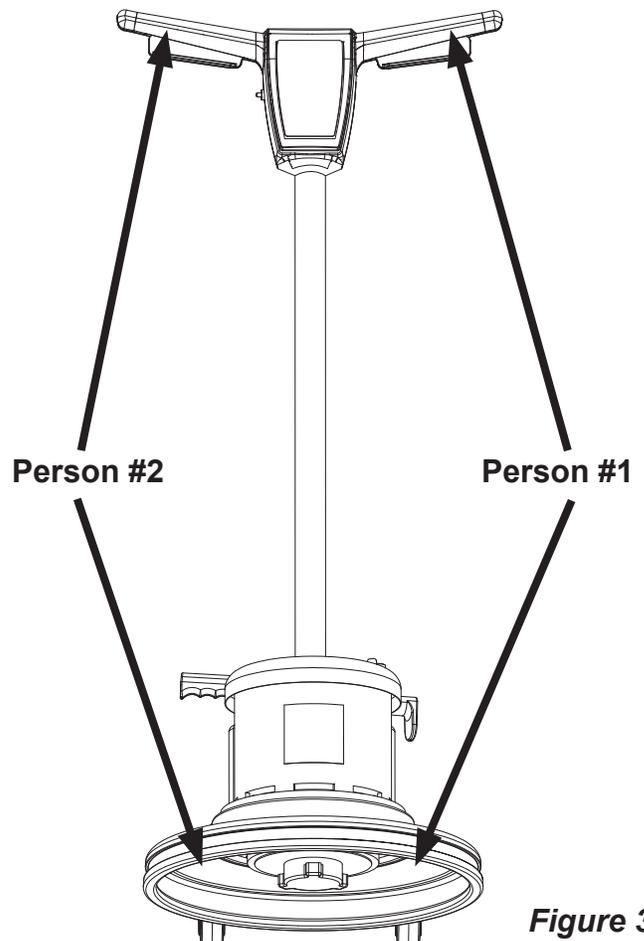

Figure 3
3. To pick up the machine, using two people, lift and place in cargo area (See Figure 3).